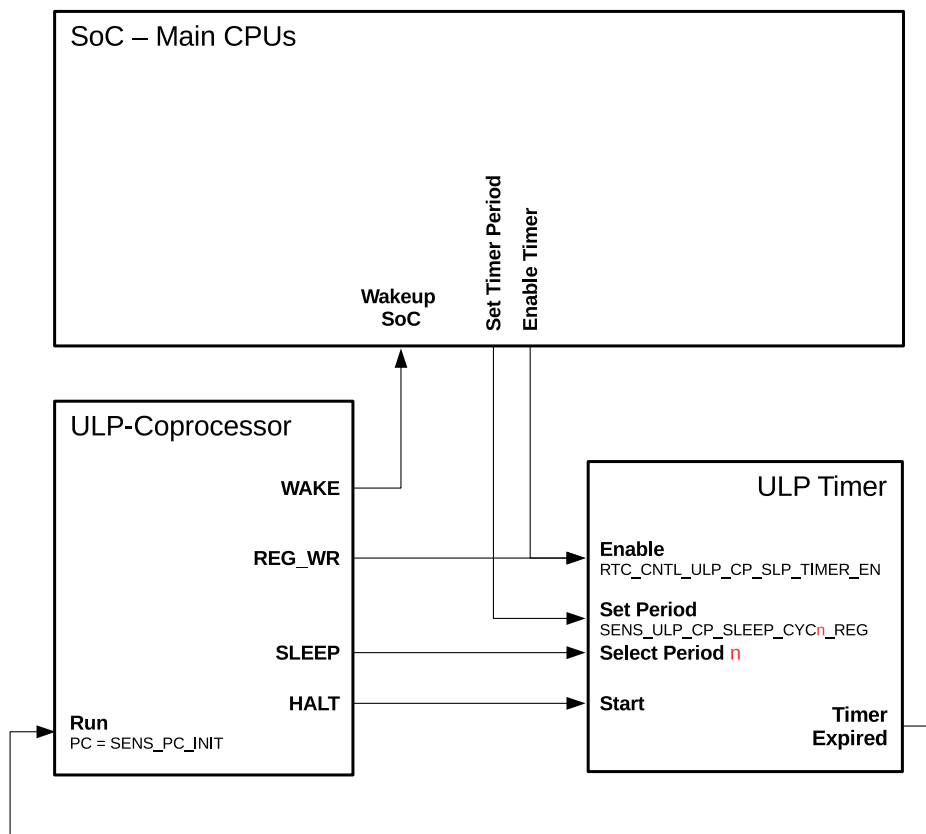

Figure 131: Control of ULP Program Execution
The ULP co-processor puts itself into sleep mode by executing the HALT instruction. This also triggers the ULP timer to start counting RTC_SLOW_CLK ticks which, by default, originate from an internal 150 kHz RC oscillator. Once the timer expires, the ULP co-processor is powered up and runs a program with the program counter (PC) which is stored in register SENS_PC_INIT. The relationship between the described signals and registers is shown in Figure 131.